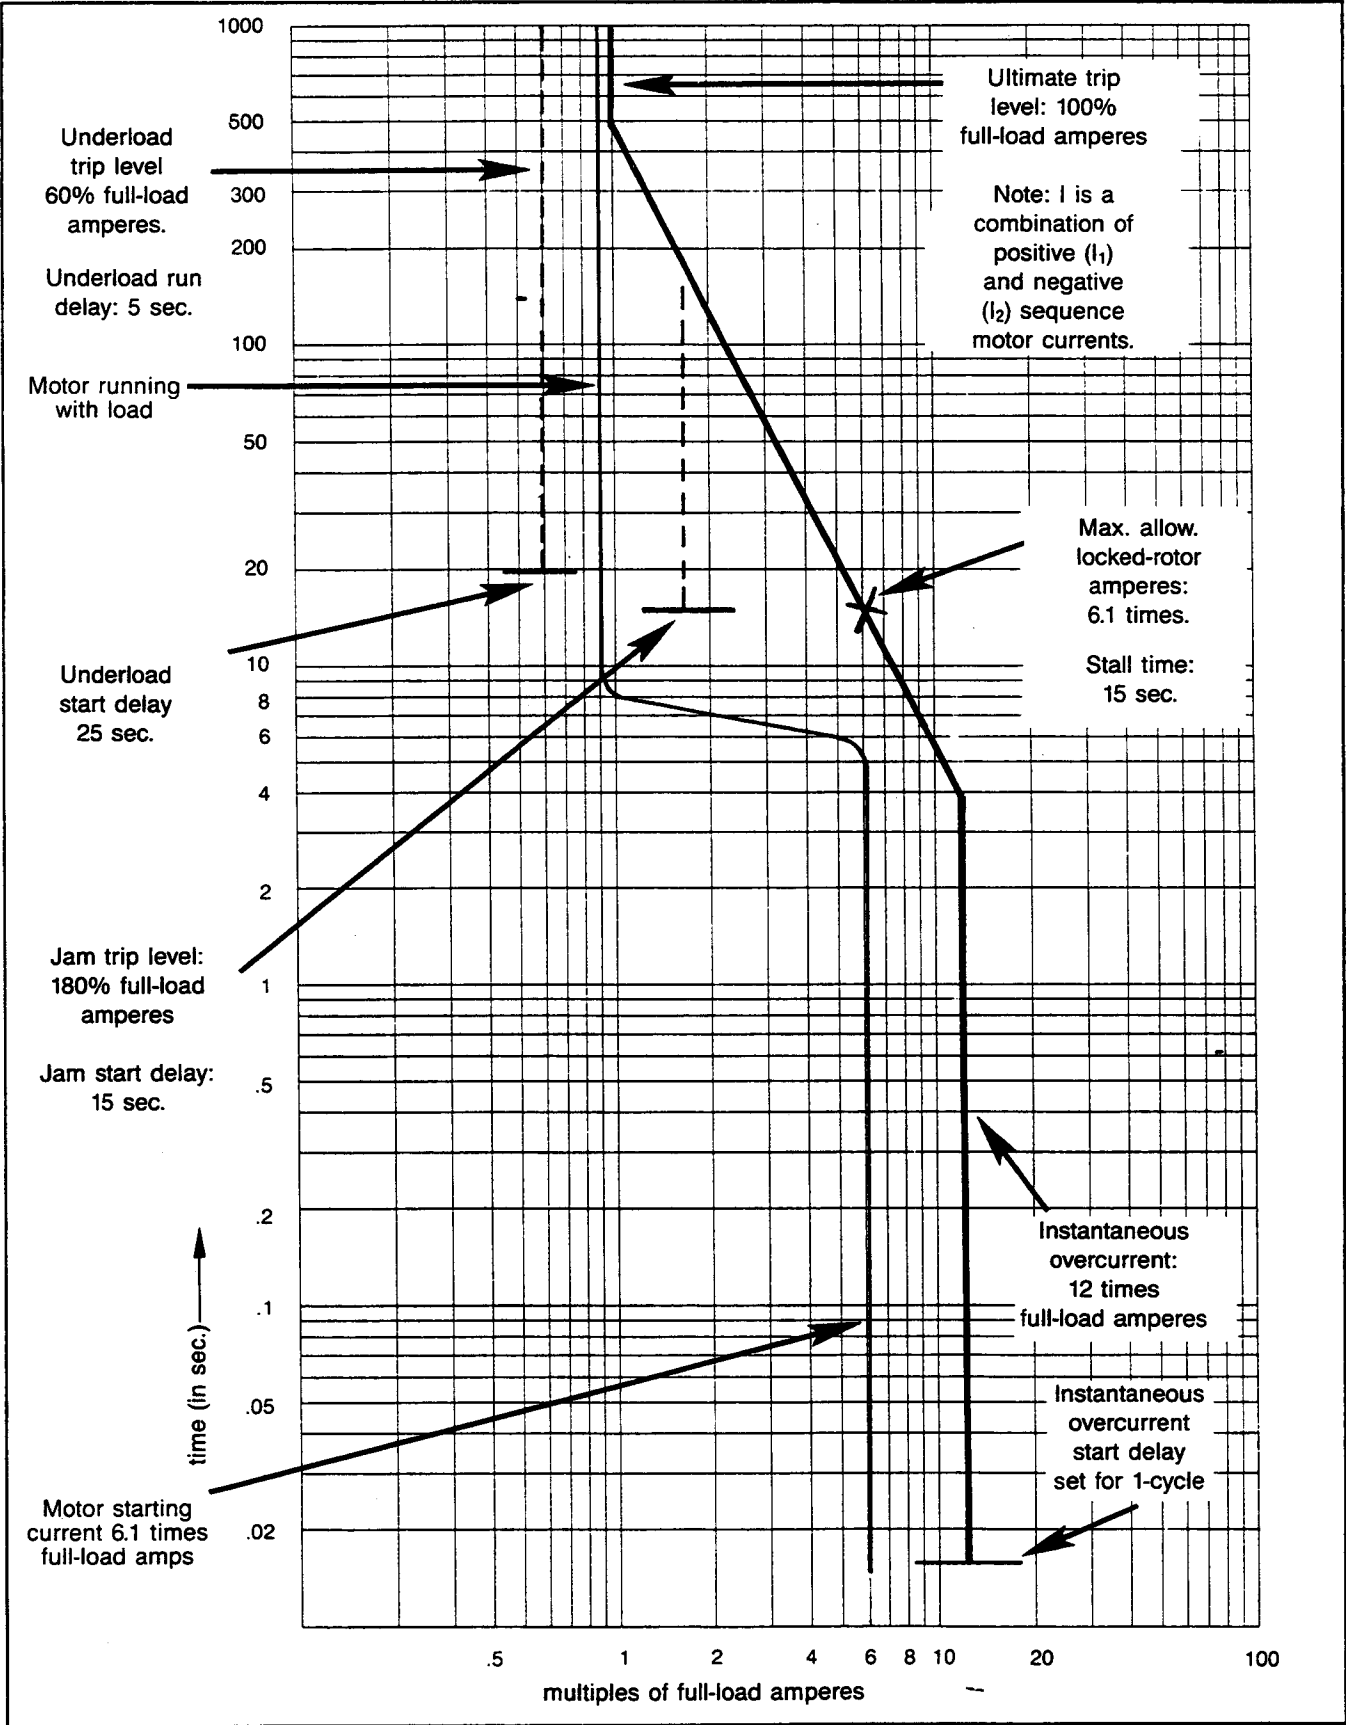
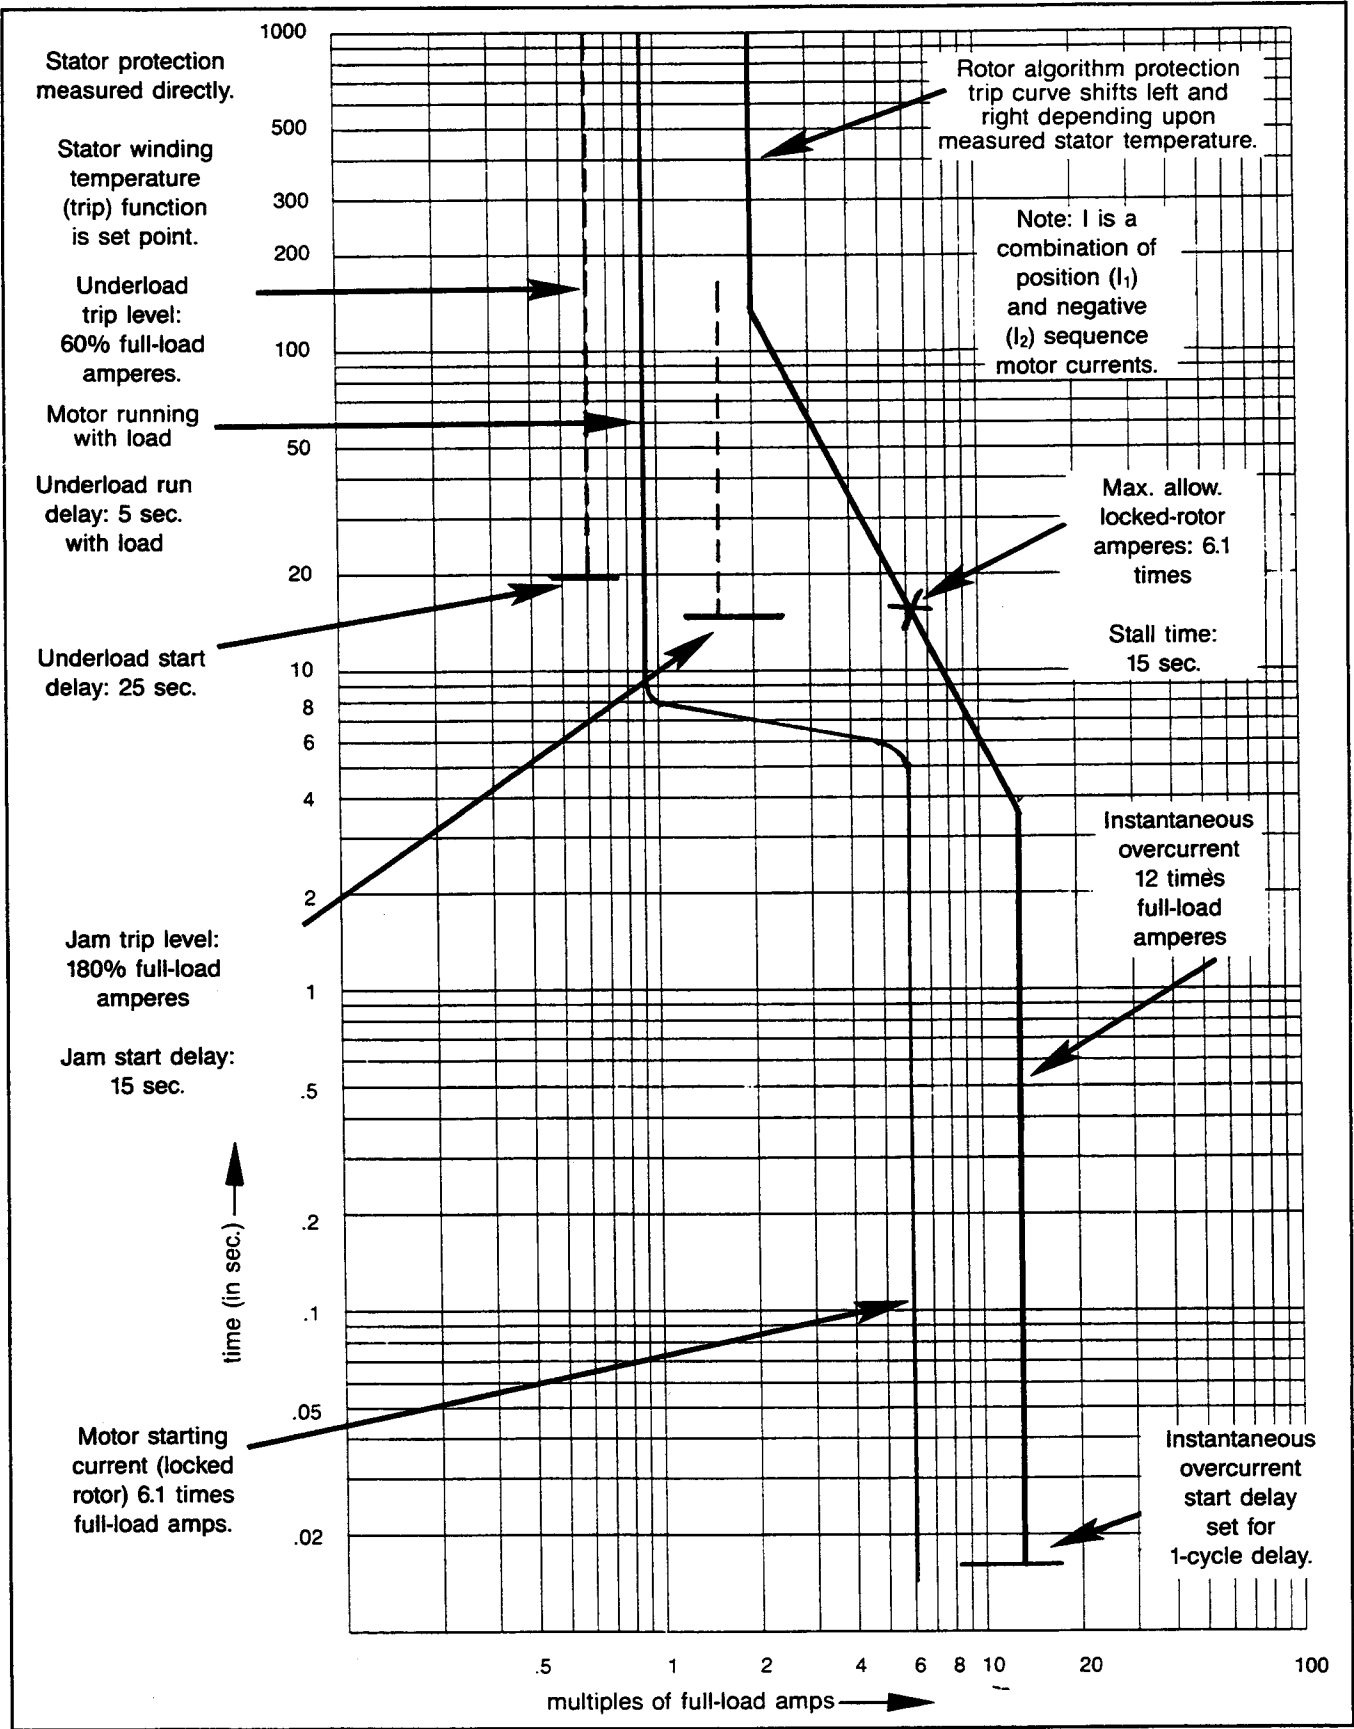

Figure 7.4 — Motor Protection Curve (without RTDs)
Figure 7.5 — Motor Protection Curve (with RTDs)
7.1.4 Typical Motor Protection Curves — To illustrate the effects of the IQ-1000's protection features, 2 sample curves are shown here. Using specific motor data, typical motor protection curves of the IQ-1000 without RTDs are shown in Figure 7.4. The use of RTDs is assumed in Figure 7.5. The following data were used:
- Start cycle set at 10 seconds (assumes a single-stage motor). (See items 28 and 29.)
The difference in the typical curve caused by the addition of RTDs is shown in Figure 7.5. It centers on the time period after 60 seconds. (When RTDs are used, the actual monitored temperature automatically overrides the ultimate trip function's set point.)
The effects of the motor winding temperature (items 1 and 4) set points, which can be used with RTDs, are not evident in Figure 7.5. These functions are independent of the effects of temperature on the I²T algorithm's trip curve. These functions' set points are based on the recommended maximum stator temperature, as supplied by the motor manufacturer. Depending upon the specific motor winding temperature set points, the temperature trip curve shifts to the left or right.